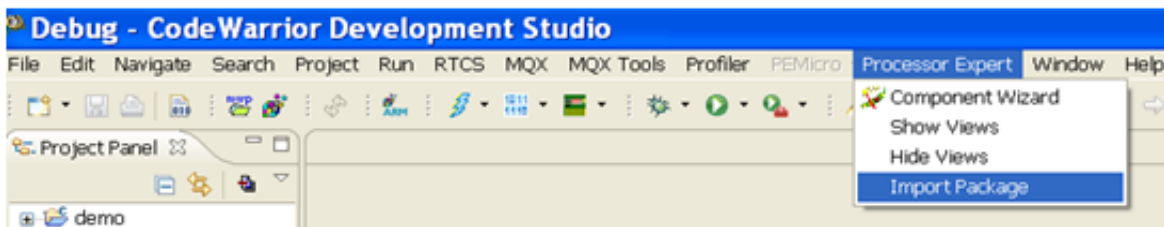

Figure 1. Import package
2. Use the Processor Expert ◇ Import Package command, refer to Figure 1